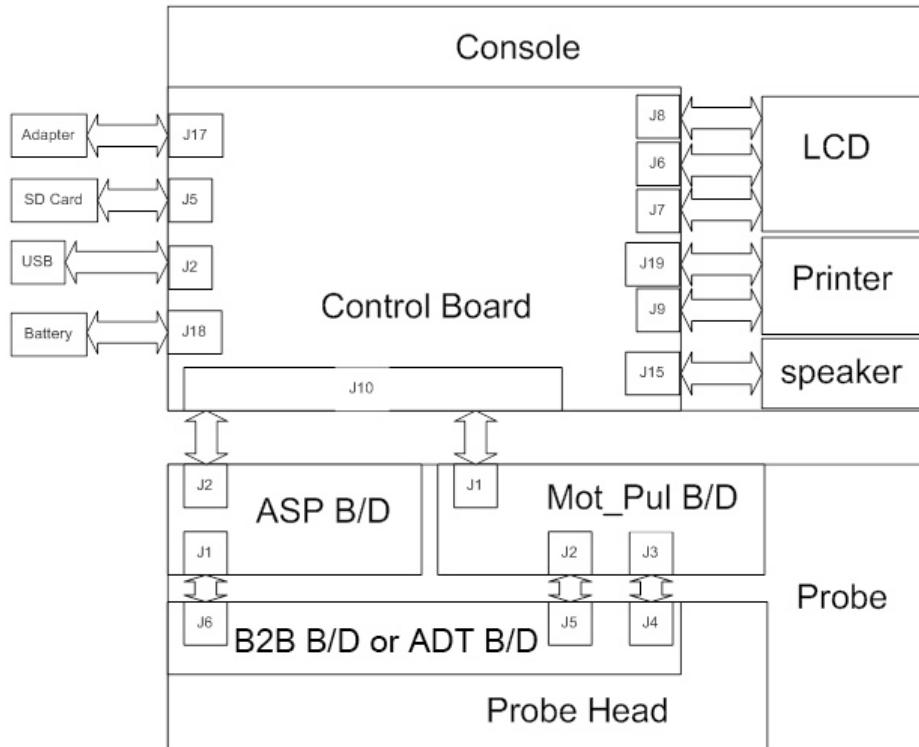
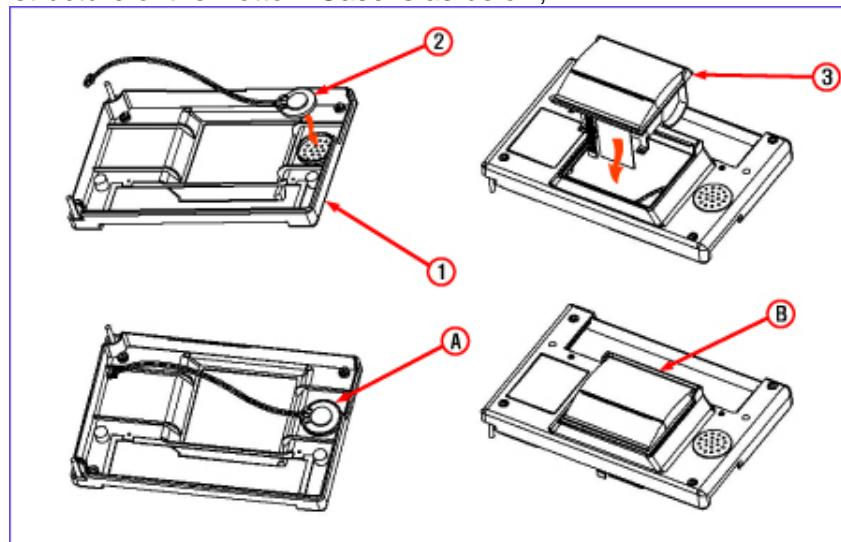

Figure10 Signal Interface Diagram of the BioCon-700
Figure11 Structure of the Bottom
①	Bottom Case	-	1EA
②	Speaker	-	1EA
③	Printer Module	-	1EA
- A. Interpose ②speaker into the speaker position of bottom case and fix with glue (Figure 10).
- B. Fix ③Printer to ①bottom case. As shown in the pictures below, turn the fastener to the direction of the arrow. After it is mounted on the ①bottom case, turn and lock the fastener as it is caught to the ①bottom case (Figure 10 & Figure 11).